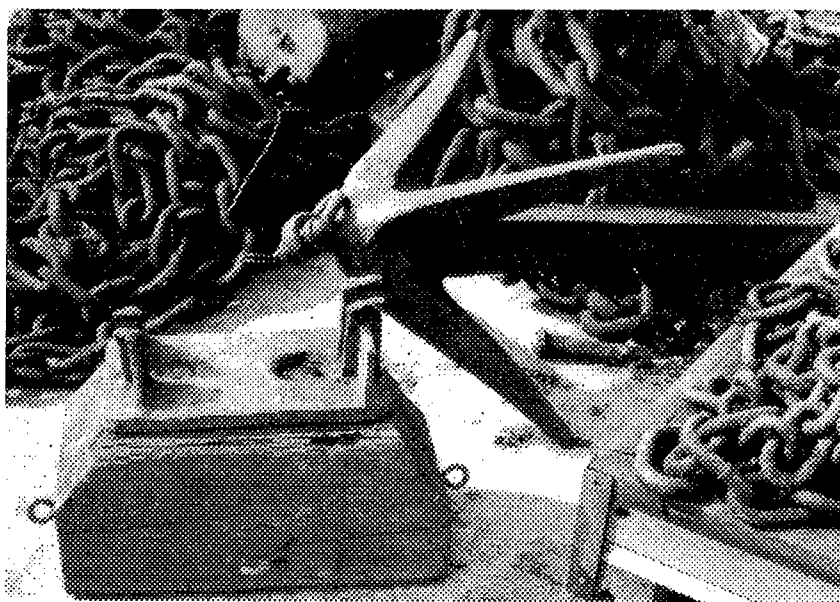

Fig. 3-4 Heat and beat anvil
8. Heat and Beat Anvil. This anvil weighs about 100 pounds. Some are round with handles on the side so they can be moved easily around deck. Others are either rectangular or square. The purpose of the anvil is to provide a surface where solid shackle pins can be heated with a torch and peened over with a sledge hammer. Heat and beats are used on larger units to secure the bitter ends of two lengths of chain together. Split keys are used to attach the bridle and the sinker to the bitter ends of the chain (See **Figure 3-4.**)